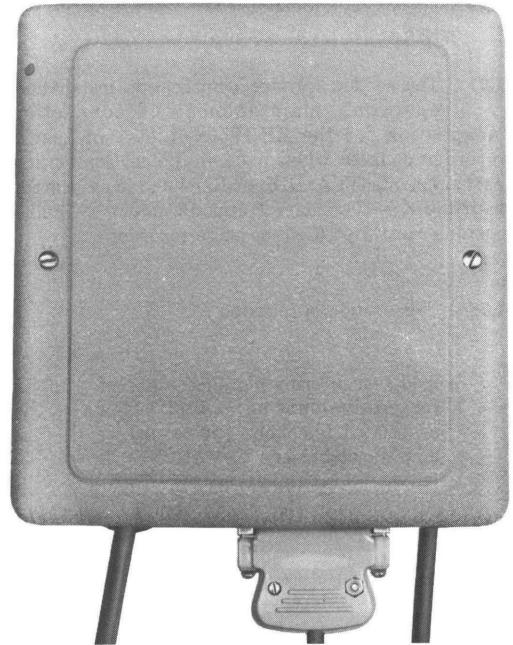

Fig. 1—KS-19522 Recorder Coupler
- Coupler, Recorder, KS-19522, L1 (one-way transmission, Fig. 1 and 2)